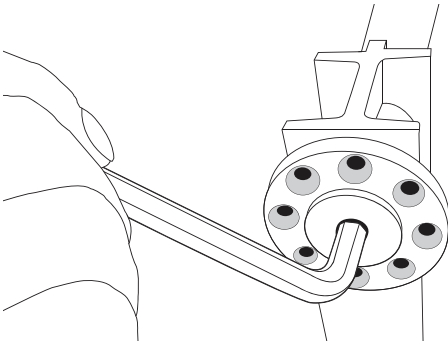

FIGURE 7
2. Tighten both adjustment plates by 1 or 2 holes (Fig. 7).